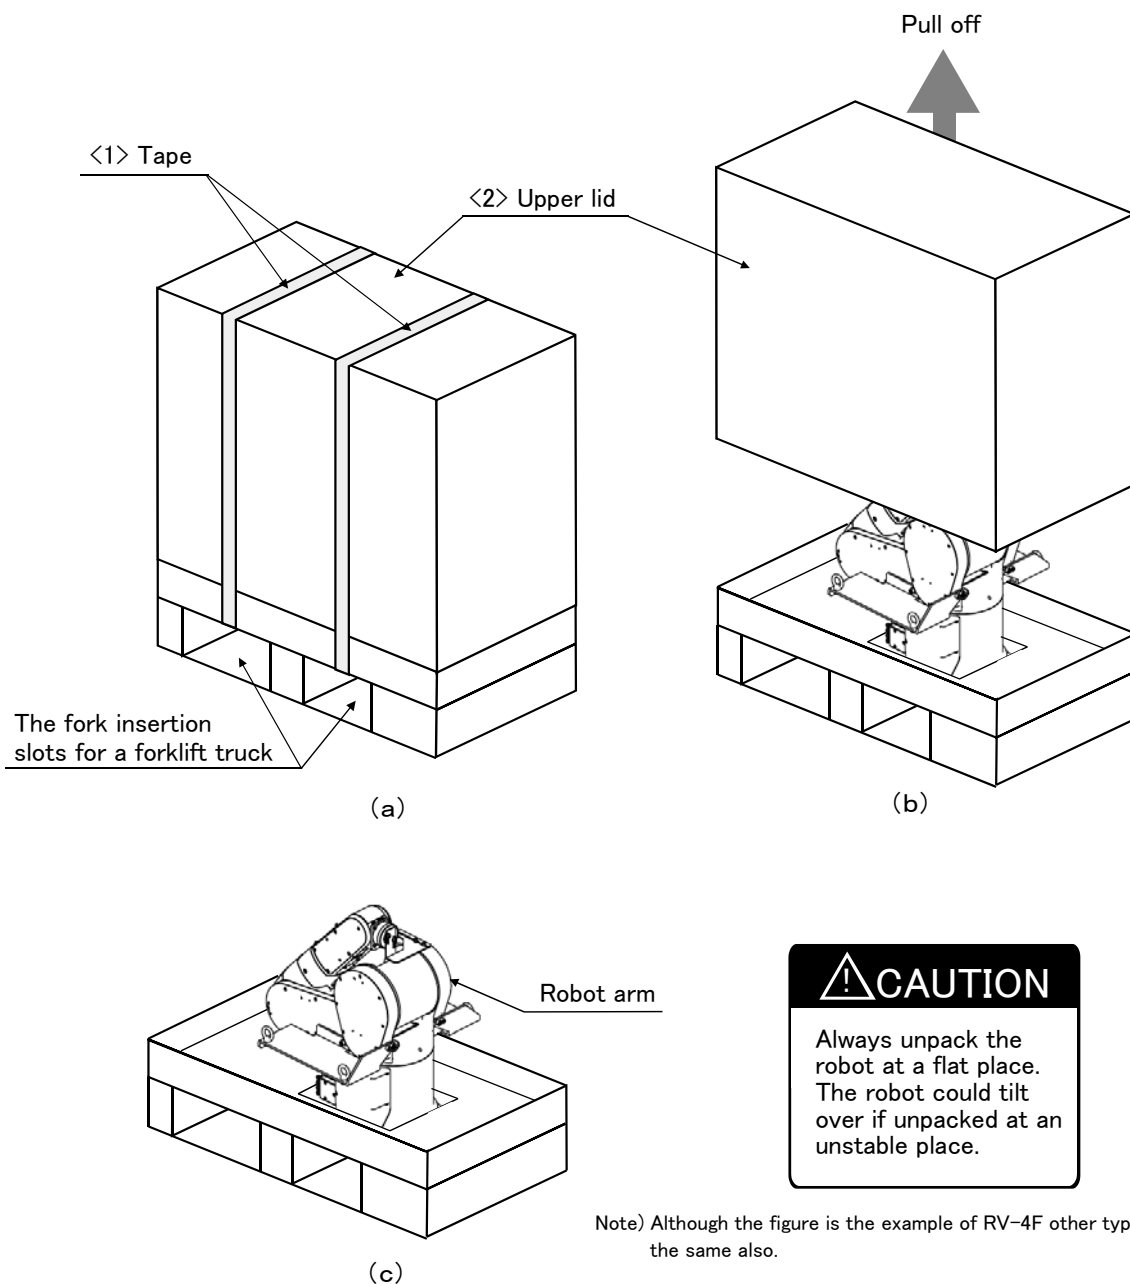

Fig.2-1 : Unpacking the robot arm
The robot is shipped from the factory in cardboard and plywood packing. Always refer to Fig. 2-1 and unpack the robot.
- 1) Using a knife, etc., slit the tape <1> fixing the upper lid <2> of the cardboard box. (Fig. 2-1 \(a\))
- 2) Pull the upper lid <2> of the cardboard box off with both hands. (Fig. 2-1 \(b\))
- 3) Remove the hexagon socket bolts <3> (four positions) connecting the sleeper and the base unit. (Fig. 2-1 \(c\))